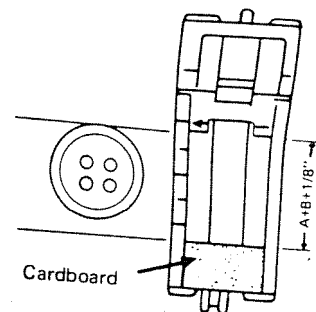

Fig. 37
Using the buttonhole foot will measure the buttonhole automatically. To make a buttonhole, shorter than 1 1/8 inches, cut a piece of cardboard (from button card), and place it in the front of the foot under the lip, so it fits tightly. The length of the buttonhole is measured from the end of the nylon slide, to the end of cardboard. (Fig. 37)
1. Replace presser foot with special purpose buttonhole foot. This provides maximum visibility and allows closely spaced stitches to feed evenly (Fig. 37)